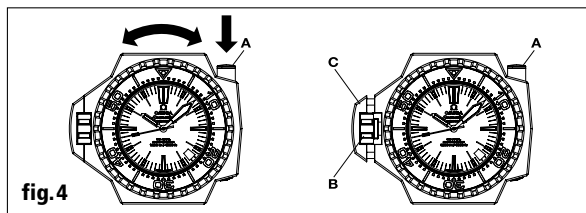

fig. 4
**Using the rotating bezel (fig. 4):** keep the pusher (A) pressed down to turn the bezel.
**Using the crown (fig. 4):** the crown (B) must be unscrewed before it can be used, when the crown protection (C) will slide without turning. After use, push the crown to position 1, then press and screw the crown down again (to ensure the water resistance of the case).